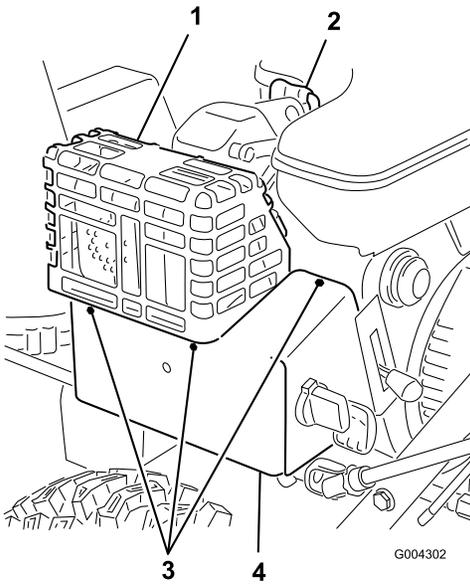

Figure 18
If you operate the engine when the air temperature is above 40°F (4°C), remove the carburetor heater box (Figure 18).
1. Disconnect the wire from the spark plug and ensure that the wire does not contact the plug (Figure 18).
4. Remove the fasteners that secure the carburetor heater box in place (Figure 18).
1. Connect the spark plug wire (Figure 18).